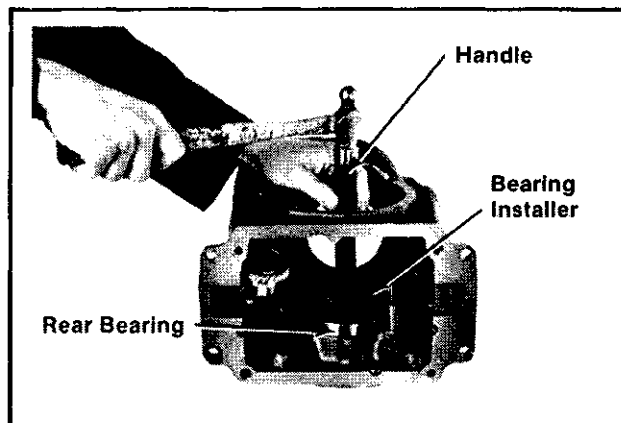

Figure 12B-1. Installing Rear Bearing.
1. Install the rear bearing into crankcase using the #4747 handle and appropriate bearing installer. (Refer to the "Special Tools" section). Make sure the bearing is bottomed fully, and is straight and true in bore. Refer to Figure 12B-1.